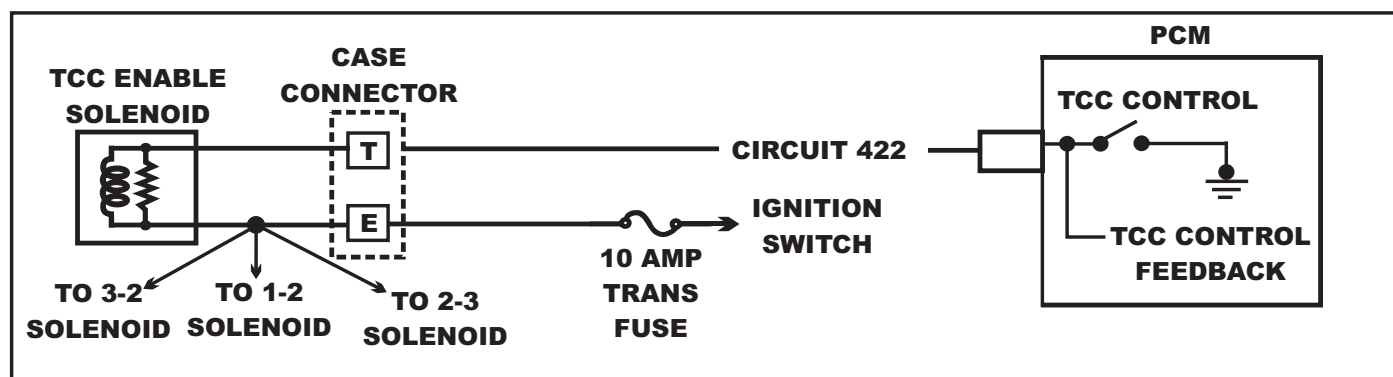

Figure 108
- A short to power or ground on Circuit 422, (Refer to Figure 108).
- An open in Circuit 422, (Refer to Figure 108).